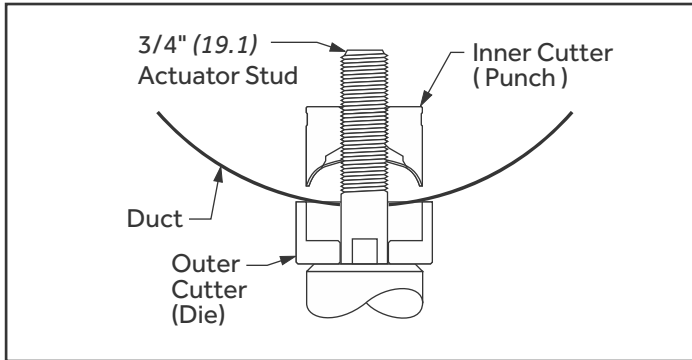

Fig. 39: 1-7/8" (47.6) Hydraulic Punch Configuration
3. 60mm Punch: Slide the 60mm die (for 2" (50.8) test port) onto the 3/4" (19.1) actuator stud with the open end of the die facing away from the actuator. Insert the 3/4" (19.1) actuator stud into the 3/4" (19.1) hole. From inside the duct thread the matching 60mm punch onto the 3/4" (19.1) actuator stud with the cutting surfaces of the punch toward the duct. Continue threading the punch by hand until the die, duct and punch are snug. Operate the hydraulic actuator to draw the punch through the duct material. Remove the punch and die. (Fig. 39)